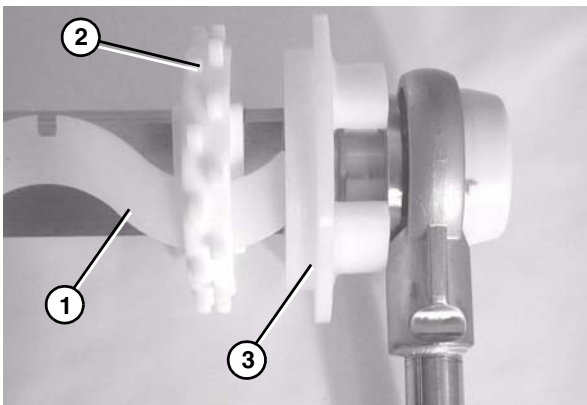

Figure 69
3. Insert the sprocket alignment bar (Figure 69, item 1) into the first sprocket (Figure 69, item 2) resting it up against the flanged puck (Figure 69, item 3). Position the first sprocket with the notch in the sprocket alignment bar.